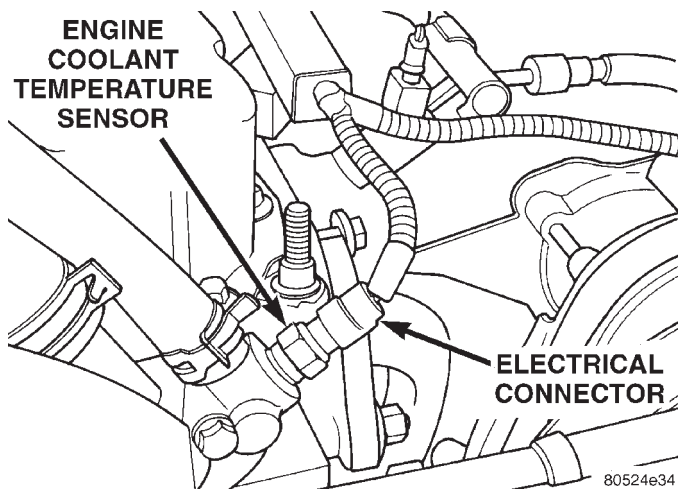

Fig. 54 Engine Coolant Temperature Sensor—4.0L Engine
(1) Disconnect wire harness connector from coolant temperature sensor (Fig. 54).